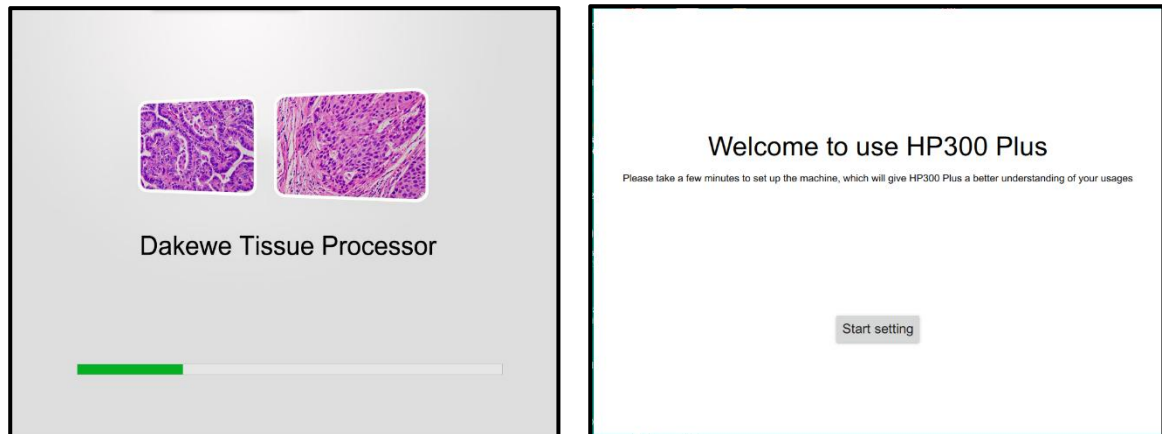

Figure 23
4. After the initialization is complete, the system will enter the boot preference setting interface (Figure 23). By setting preference settings, the use of the device is more in line with the actual user habits.